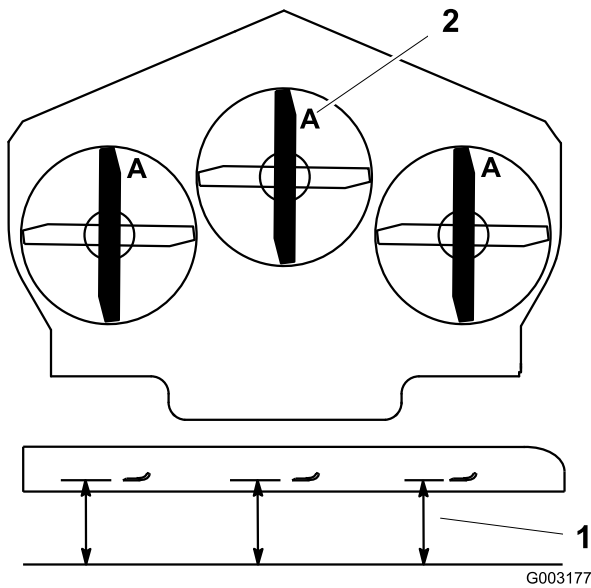

Figure 87
- Rotate the blades until the ends face forward and backward (Figure 87). Measure from a level surface to the cutting edge, position A, of the blades (Figure 87). Note this dimension.